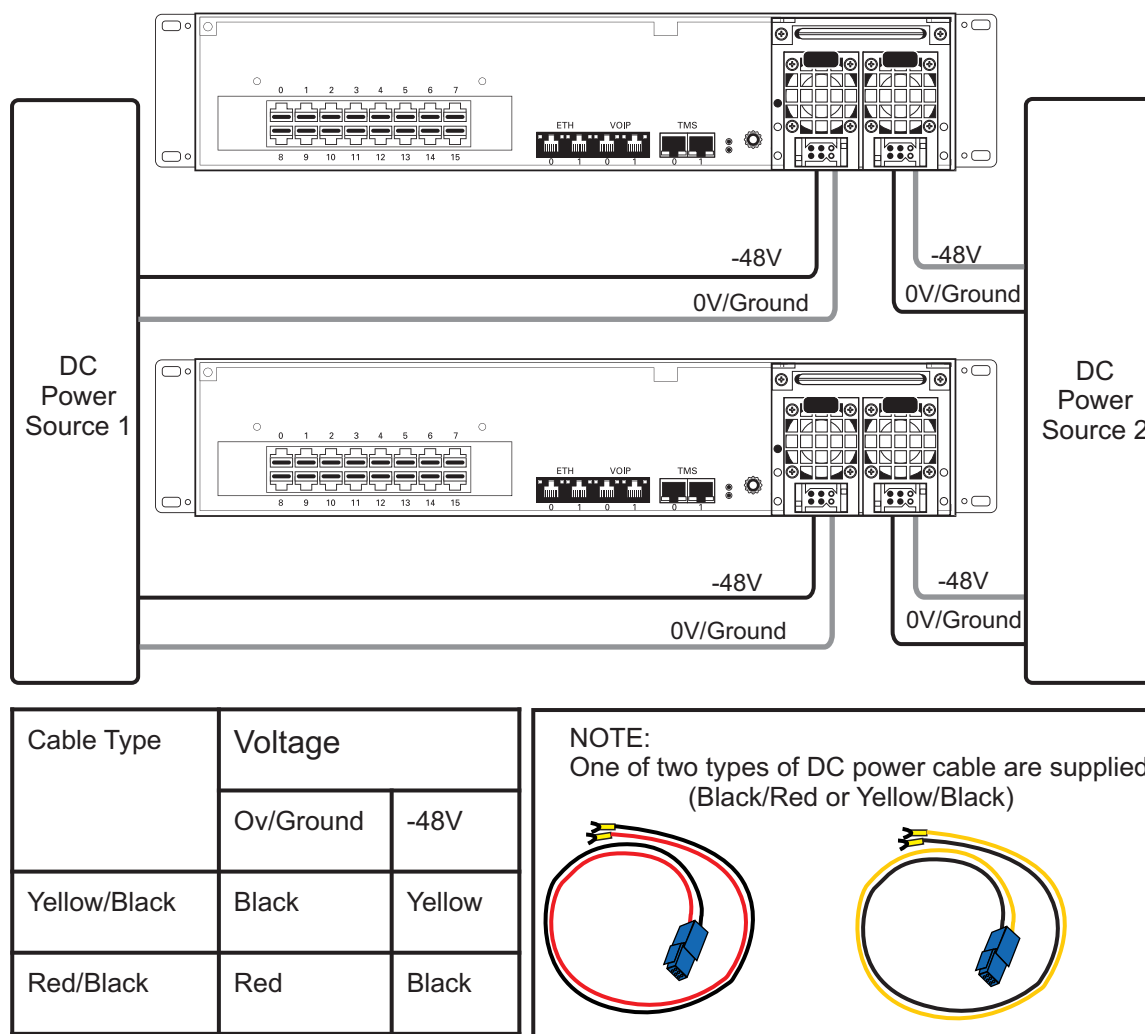

Figure 2.20 3200 Series and 3200 Series +1 DC Power Connections
1. Connect the first DC power connector of the 3200 series and 3200 series +1 units to DC power source one. See Figure 2.20 on page 44.